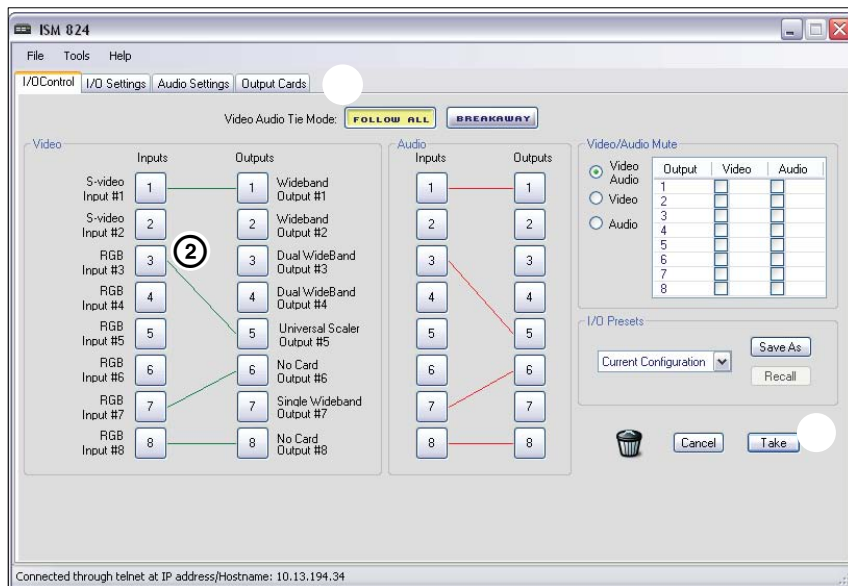

Figure 5-19 — Create ties on the I/O Control page
1. Select the Video/audio mode; **“Follow all”** or **“Breakaway”** (see figure 5-19).
2. Drag and drop the desired input button over to the desired output button and release. A broken line appears (green for video, red for audio), connecting the input and output button (see input 3 and output 5 in figure 5-19). Repeat as desired for all ties that need creating.